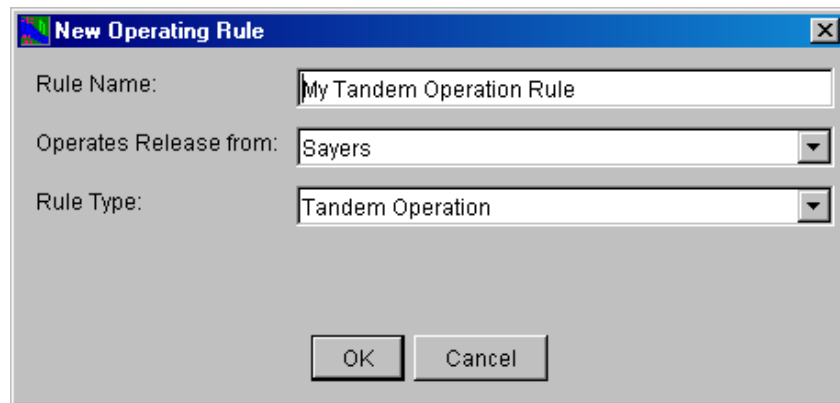

Figure 11.19 Reservoir Editor--New Operating Rule: Tandem Operation
1. To create a Tandem Operation rule, follow the instructions for creating a new rule as described in Section 11.5.1. Be sure to select the *reservoir* for the release component (**Operates Release from**) and **Tandem Operation** for the **Rule Type** in the **New Operating Rule** editor. Figure 11.19 illustrates the creation of a Tandem Operation rule.